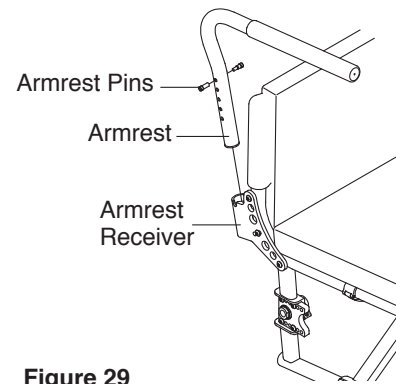

Figure 29
2. Remove both armrest pins. See Figure 29.